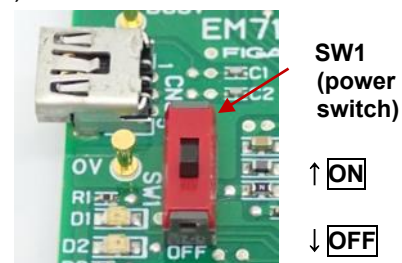

Figure 7
- (3) Turn on the power switch (SW1) on EM7162 (see Fig. 7).